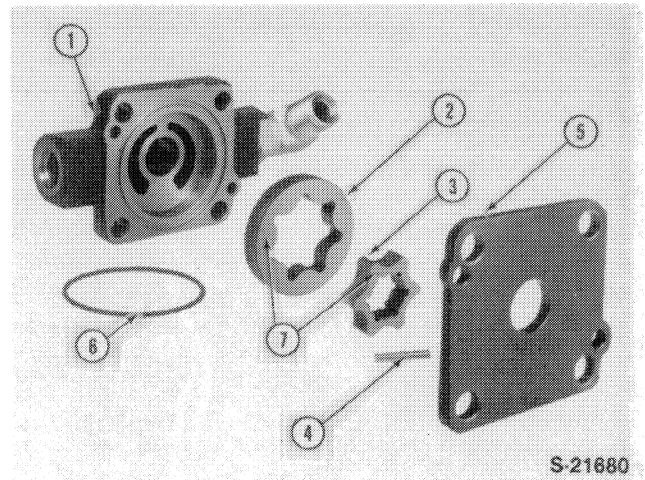

FIGURE 8-28
NOTE: Observe the identification punch marks on the forward face of the inner and outer rotors, Figure 8-28.
2. Inspect the side faces of the inner and outer rotors, 2 and 3, and the mating surfaces in the pump body, 1, and end plate, 5, Figure 8-28.